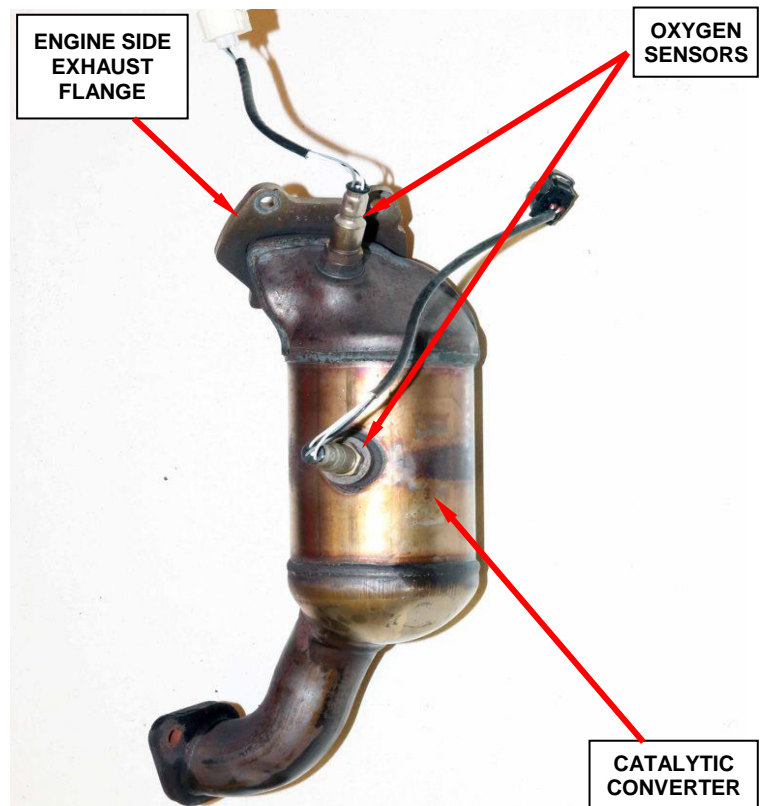

Figure 15 – Rear Catalytic Converter
21. **For vehicles with All Wheel Drive**, remove and save rear catalytic converter (Figure 15).